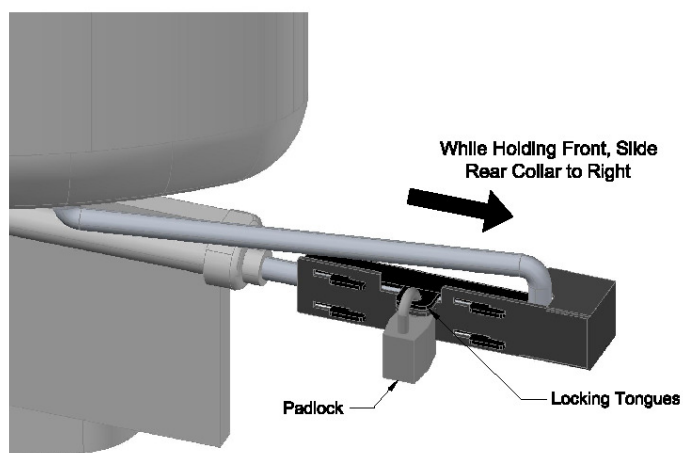

Figure 5 - Front and Rear Collar with Padlock
5. With the rear collar engagement teeth protruding through the front collar and while still holding the front collar, slide the rear collar to the right (see Figure 5). This will temporarily lock the front collar with the rear collar and align the front and rear collar locking tongues.